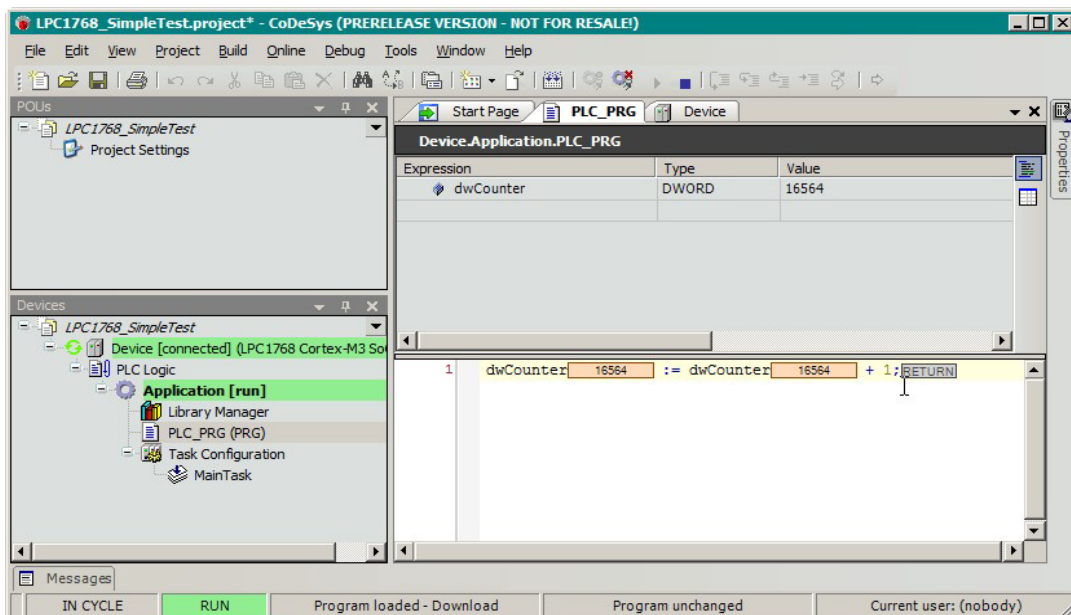

Figure 9. Monitoring the *dwCounter* variable and project execution
- Select **Debug – Start** (or press F5) in the CODESYS main menu to run the project in the target. The CODESYS main window will look as shown in Figure 9 indicating the project execution and monitoring changes of the *dwCounter* variable.